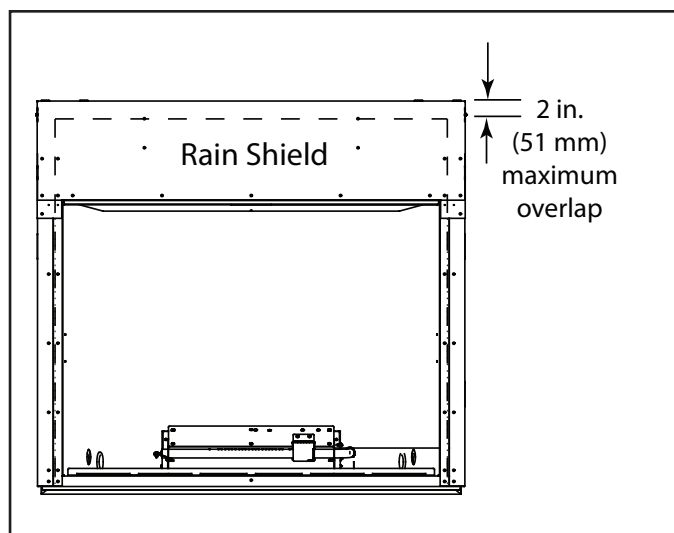

Figure 3.11 Membrane Overlap
A moisture membrane material may overlap and be taped onto the face of the appliance a maximum of 2 inches on the sides and top. See Figure 3.11.
- See Section 3.H and Figures 3.1 and 3.2 for more information regarding wall and enclosure construction required to prevent moisture penetration into the structure. The appliance will shed moderate amounts of water but is not waterproof. See Figures 3.11, 3.12, 3.13 and 3.14.